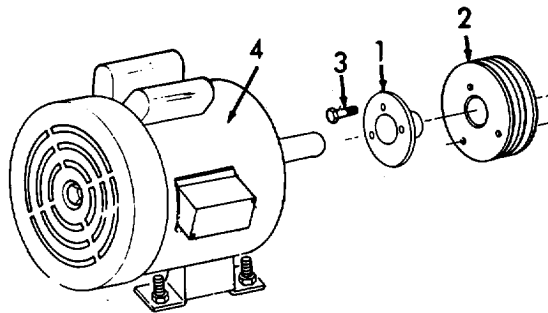

Figure 3-16. Drive Pulley, Installation.
- (1) Inspect for missing or damaged hardware.
- (2) Inspect bushing for damage.
- (3) Inspect pulley for damage.
*e. Installation.* (Refer to Figure 3-16).